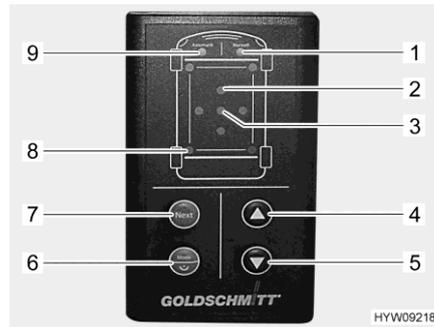

Fig. 41 Control unit (hydraulic steady legs)
If the vehicle's tilt is too great, the corresponding red "Inclination" LED flashes (Fig. 41,2). Select a suitable location, or operate the steady legs manually at your own risk.
If when being extended a steady leg reaches its maximum length due to a depression in the ground, the "Manual mode" (Fig. 41,1) and "Automatic mode" LEDs flash (Fig. 41,9) three times. If this happens, retract the steady legs, place suitable supports under the affected steady leg and repeat the procedure.
Switching on/off: ■ Press the "On/Off/Mode" (Fig. 41,6) button for longer than 1 second. After switching on, a signal tone sounds and the "Automatic mode" LED (Fig. 41,9) lights up.
Changing mode: ■ Press the "On/Off/Mode" button (Fig. 41,6) briefly. The mode changes between Manual and Automatic. The corresponding LED (Fig. 41,1 or Fig. 41,9) lights up.
■ Press the "Extend" (Fig. 41,5) button. The alignment procedure is performed automatically. The "Steady leg" LEDs (Fig. 41,8) flash as long as the steady legs are moving.
If the vehicle has folding supports: Movement of the steady legs ceases after unfolding to give you the chance to put chocks in place. The "Automatic mode" LED (Fig. 41,9) flashes rapidly.
■ Press the "Extend" button (Fig. 41,5) again. The alignment procedure is continued.
■ Press the "Retract" button (Fig. 41,4). The steady legs retract completely. The "Steady leg" LEDs (Fig. 41,8) flash as long as the steady legs are moving.
- Press the "On/Off/Mode" button (Fig. 41,6) briefly in Automatic mode. The "Manual mode" LED (Fig. 41,1) lights up.
- Pay attention to the "Inclination" LEDs (Fig. 41,2). An illuminated LED indicates that the vehicle must be raised on this side.
- Press the "Next" button (Fig. 41,7) as often as necessary until the desired pair of steady legs is selected. The corresponding "Steady leg" LEDs (Fig. 41,8) light up.
- Press the "Retract" (Fig. 41,4) or "Extend" button (Fig. 41,5) until the desired position is reached.
- Press the "Next" button (Fig. 41,7) again until another desired pair of steady legs is selected. Repeat the procedure until the vehicle is aligned. The vehicle is aligned when the green "Position ok" LED (Fig. 41,3) lights up.
- Press the "On/Off/Mode" (Fig. 41,6), "Extend" (Fig. 41,5) and "Retract" (Fig. 41,4) buttons simultaneously and keep them pressed for 3 seconds.
- Release the buttons following audible acknowledgement and illumination of the "Position ok" LED (Fig. 41,3). The position is saved as the OK position.